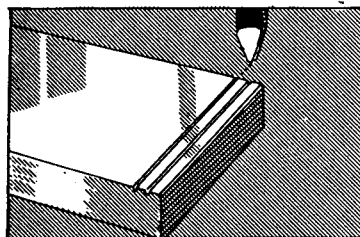

FIG. 486
9. Stop the machine at the beginning of the stroke and move the work to the right another $.187''$ (Fig. 486).